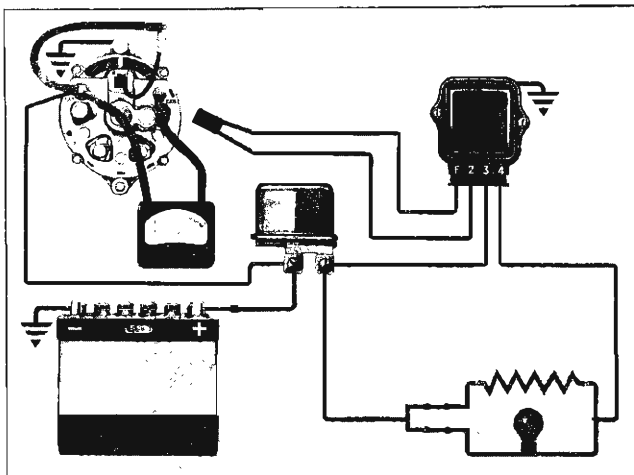

Fig. 7c—Voltmeter Method Test Connections
7. Connect a 1/4 ohm-25 watt fixed resistor (purchased commercially) into the charging circuit at horn relay junction block as shown in Figure 7c.
#### Voltmeter Method (Fig. 7C)